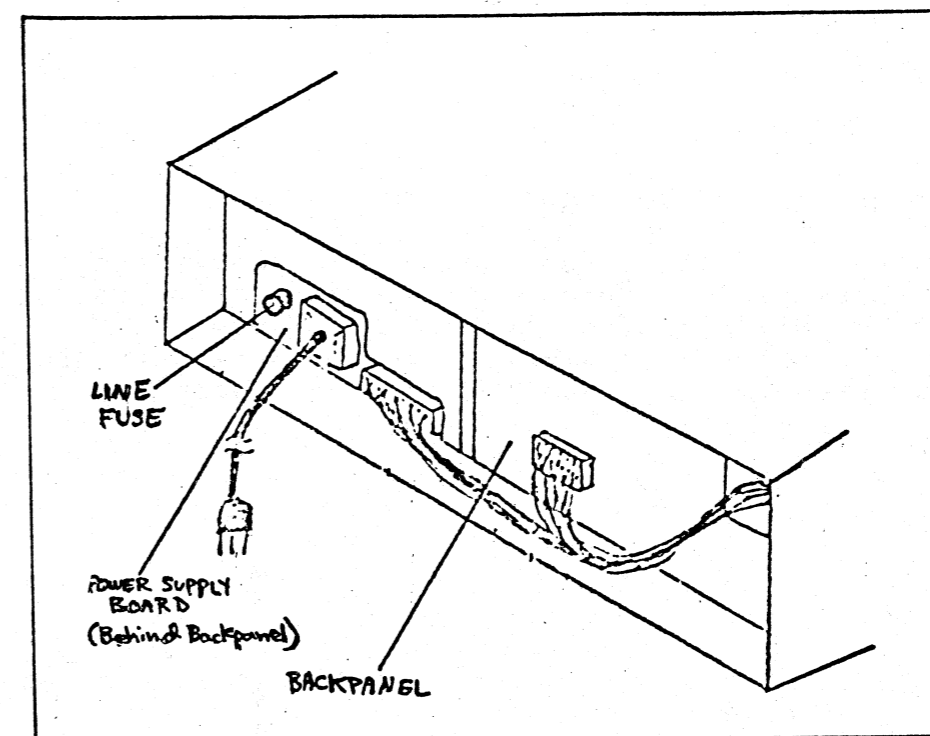

Figure 6.10 Line Fuse
9. Check the 7 Amp ac line fuse which screws into the left rear corner of the power supply board and extends through a cutout in the backpanel (see Figure 6.10).